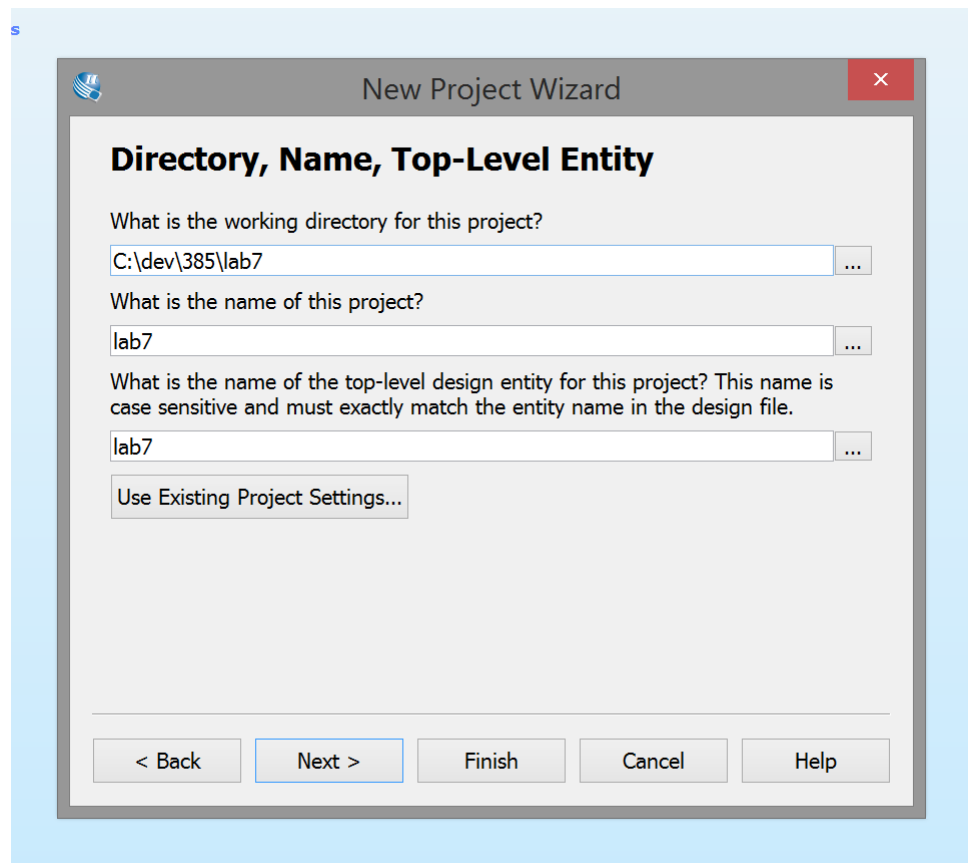

Figure 1
- The window in Figure 1 will appear. Fill in the fields from figure 1 (make sure there are no spaces in any of your entries). The program will ask you if it should create the specified directory if it does not exist; choose **yes**.